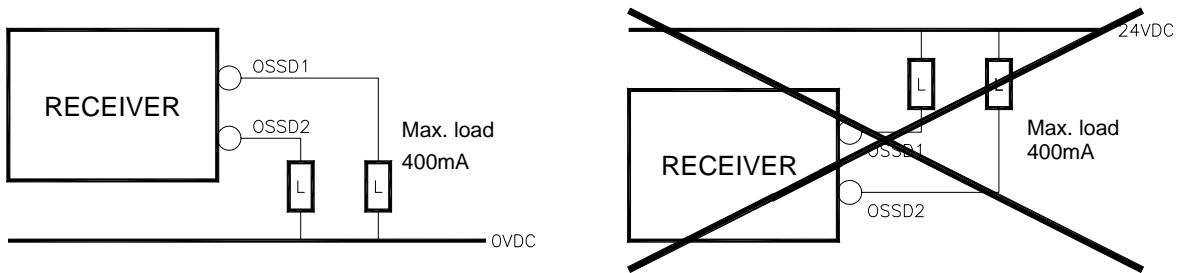

Figure 26 – Correct load connection on the outputs
**⚡** In free protected area conditions, the Receiver provides a voltage of 24VDC on both outputs. Therefore, the established load must be connected between the output terminals and the 0VDC (Figure 26).